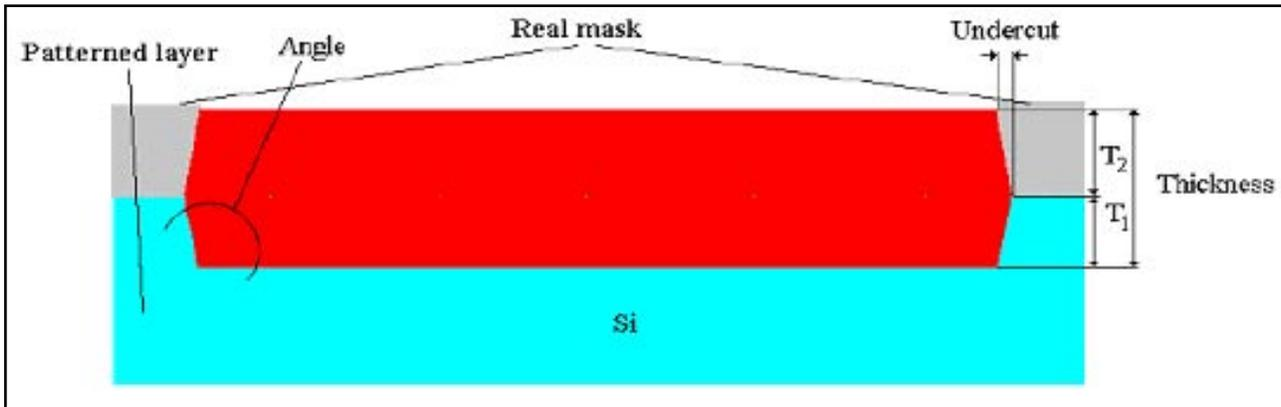
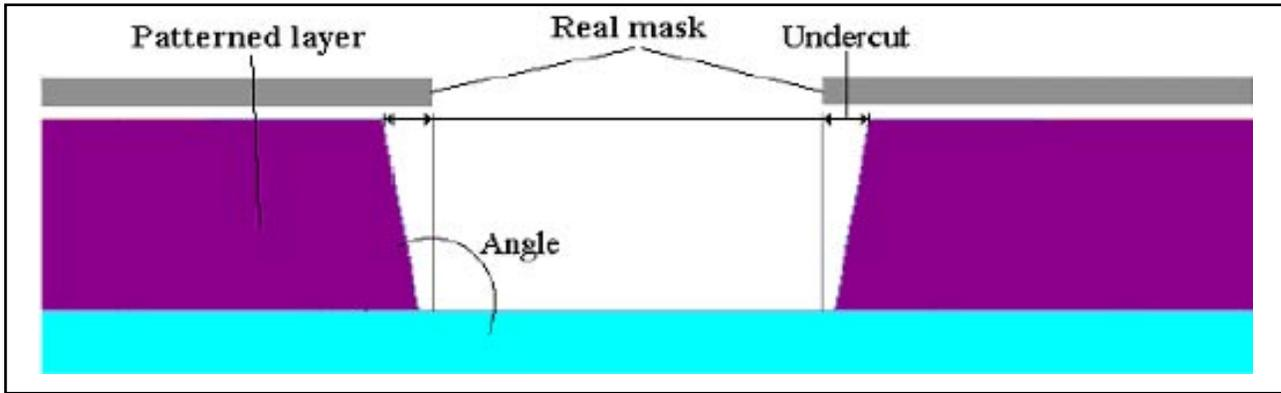

Figure 2. Local oxidation parameters.
Figure 4. Etching step parameters when using "Patterned layers".
This is equivalent to the angle between the horizontal base of the material and its side. See Figure 2 (oxidation case) and Figure 4 (etching case) for examples.
This parameter allows the user to introduce a shift between the border of the geometry of the mask layer and the place where the process operation will be applied. See Figure 2 (oxidation case) and Figure 4 (etching case) for examples.
- If the process step depends only on the material(s) to be etched/implanted or oxidized, the user has to set a high value for the Depth parameter, so it will not influence the result. (See etching Figure 4 for an etching example where the Patterned layer is the purple one)